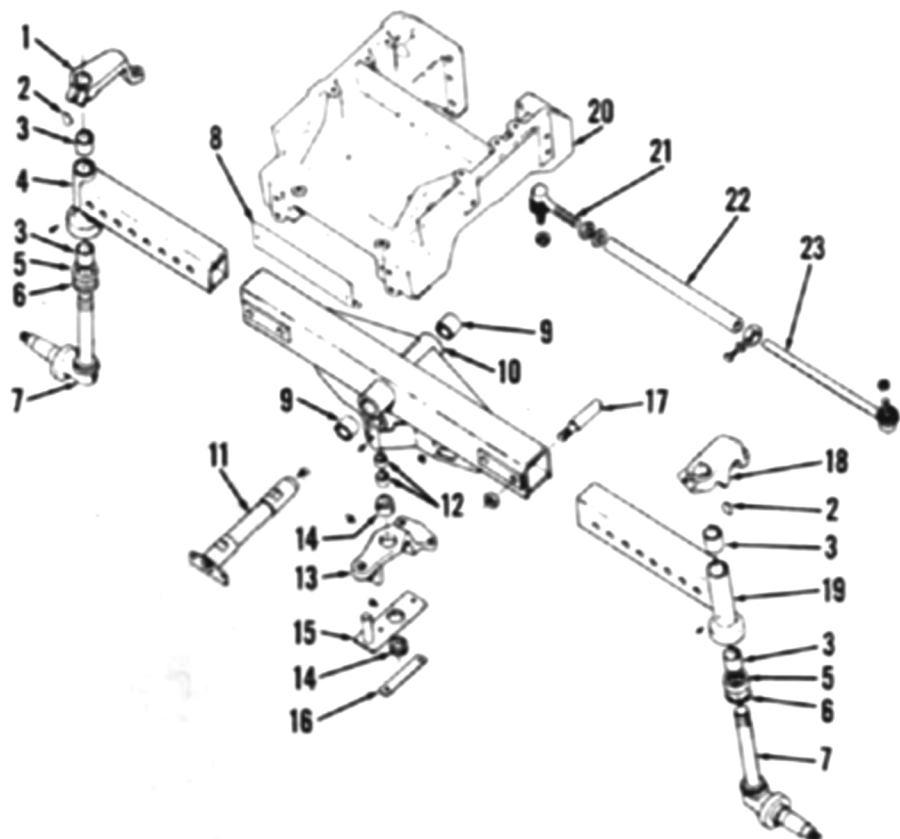

Fig. 1—Exploded view of straight adjustable front axle assembly available on all models.
The front axle assemblies used on all models are the straight adjustable type shown in Fig. 1 and the heavy duty type shown in Fig. 2.
1. To remove the axle main member (10—Fig. 1 or Fig. 2), raise front of tractor and place supports under engine and clutch. Remove front wheel and hub assemblies, then unbolt and remove axle extension assemblies. Identify and disconnect power steering cylinder hoses. Plug or cap openings to prevent entrance of dirt or other foreign material into system. Remove cylinder rod anchor pin, unbolt pivot bracket (15) and remove steering cylinder. Move steering arm (13) rearward and lower the steering arm and tie rods from axle main member. Support axle main member with a floor jack, remove pivot shaft (11), then lower axle main member from front support (20).
3. To remove either steering knuckle (7—Fig. 1 or Fig. 2), support front of tractor and remove front wheel. Disconnect tie rod from steering arm, loosen clamp bolt and remove steering arm. Remove the Woodruff key and lower